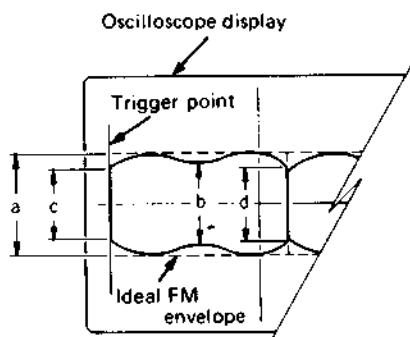

Fig. 1-6-1 FM envelope
- Push the TRACKING +/- buttons to obtain the maximum FM envelope output corresponding to (a) level in Fig. 1-6-1. Observe the FM envelope, read the maximum level (a) and the minimum levels (b), (c) and (d).